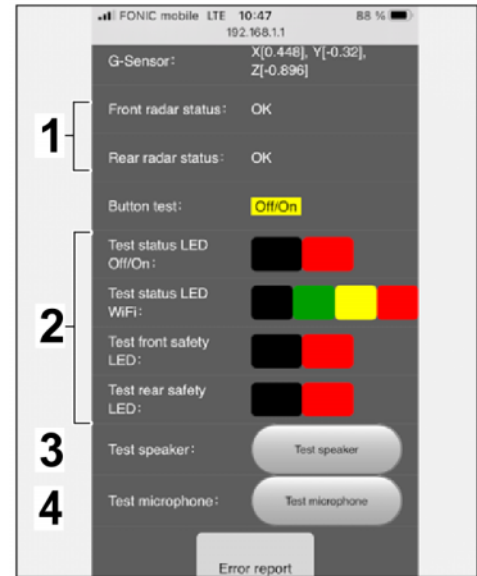

Figure 32
6.3 Display of radar status, test options for LED lights, loudspeaker and microphone (⇒ Figure 32)